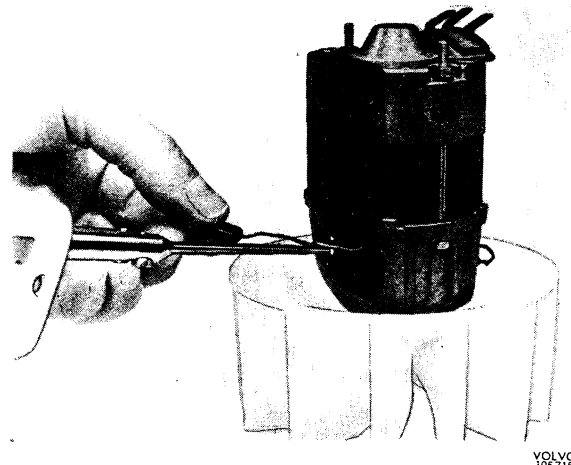

Fig. 8-50. Soldering brushes
4. Solder on new brushes (see Fig. 8-50).